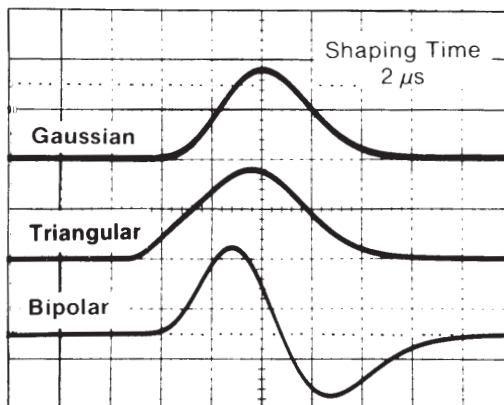

Fig. 1. Gaussian, Triangular, and Bipolar Output Pulse Shapes for a 2- μ s Shaping Time. Vertical scale, 5 V per division; horizontal scale, 2 μ s per division.
A front-panel switch on the Model 671 provides the choice of either a triangular or a Gaussian pulse shape on the UNI output connector (Fig. 1). The noise performance of the triangular pulse shape is equivalent to a Gaussian pulse shape having a 17% longer shaping time constant. In applications where the series noise component is dominant (short shaping time constants), and the pile-up rejector is utilized, the triangular shape will generally offer the same dead time and slightly lower noise than the Gaussian pulse shape. A front-panel switch permits selection of the optimum shaping time constant for each detector and application. Six time constants in the
UNIPOLAR PULSE SHAPES Switch selection of a nearly triangular pulse shape or a nearly Gaussian pulse shape at the UNI output (Fig. 1, Table 1).
The Automatic Pole-Zero Adjustment feature significantly simplifies the tuning of the amplifier to compensate for the decay time of the preamplifier pulse. This minimizes the operator skill and effort needed to achieve good energy resolution and peak position stability at moderate to high counting rates (Fig. 1). When changing time constants or detectors, an accurate pole-zero (PZ) adjustment is achieved by simply pushing the AUTO PZ button and waiting a few seconds for the AUTO PZ BUSY LED to turn off. No oscilloscope is required for this procedure. The AUTO PZ memory is protected against power failures.